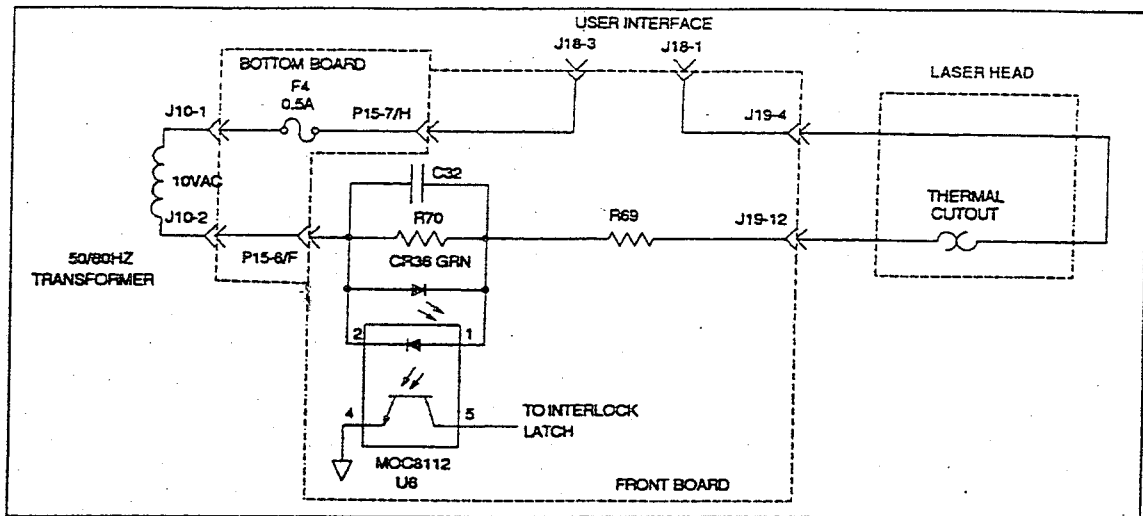
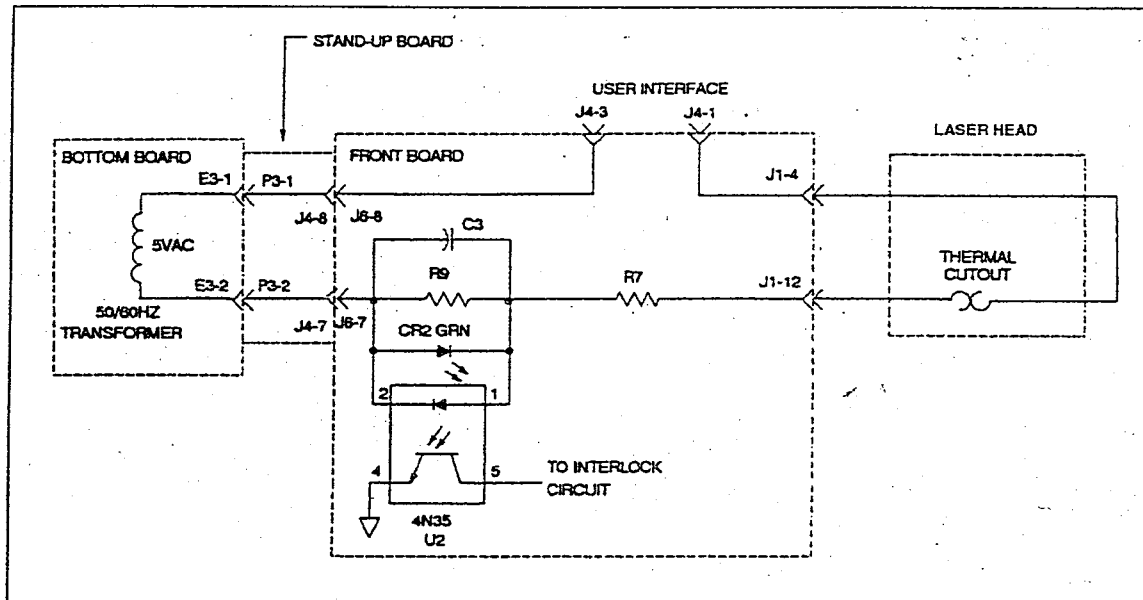

Figure 2-2. Model 2110 Series Power Supply Interlocks
Figure 2-3. Model 2110A/2110B Series Power Supply Interlocks
The interlock circuit is shown in figure 2-2 for the 2110 Series Power Supply and in figure 2-3 for the 2110A and 2110B Series Power Supply.
- The 2110 Series front board components shown in figure 2-2 are part of the interlock latch circuit. When the interlock circuit is broken during the operation of the laser, the interlock latch is set and disables the power supply, until the AC voltage is removed and reapplied. This in compliance with CDRH requirements.
- The 2110A/2110B Series front board components shown in figure 2-3 are part of the interlock circuit. Note that when the interlock circuit is broken during the operation of the laser, the power supply is disabled, but when the broken interlock circuit is corrected, the power supply will restart the laser *without* removing and reapplying AC power.